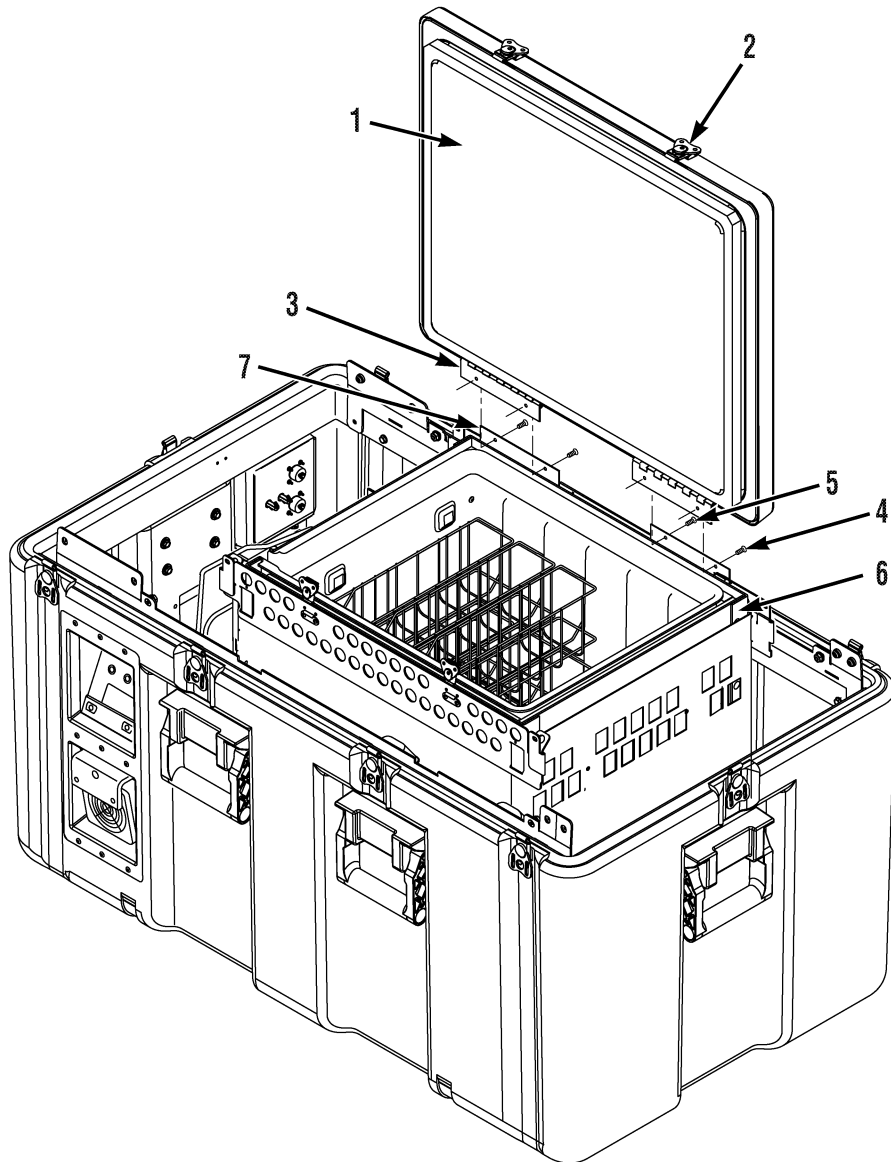

Figure 2-7. Replacement of Inner Lid Assembly
- (3) Ensure that the lid latches (2, Figure 2-7) are in the unlatched position.